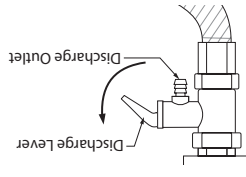

Figure 16
4. Drain the water by lifting the Discharge Leveler of the Multi-function Safety valve upwards. (Refer "Figure 16")